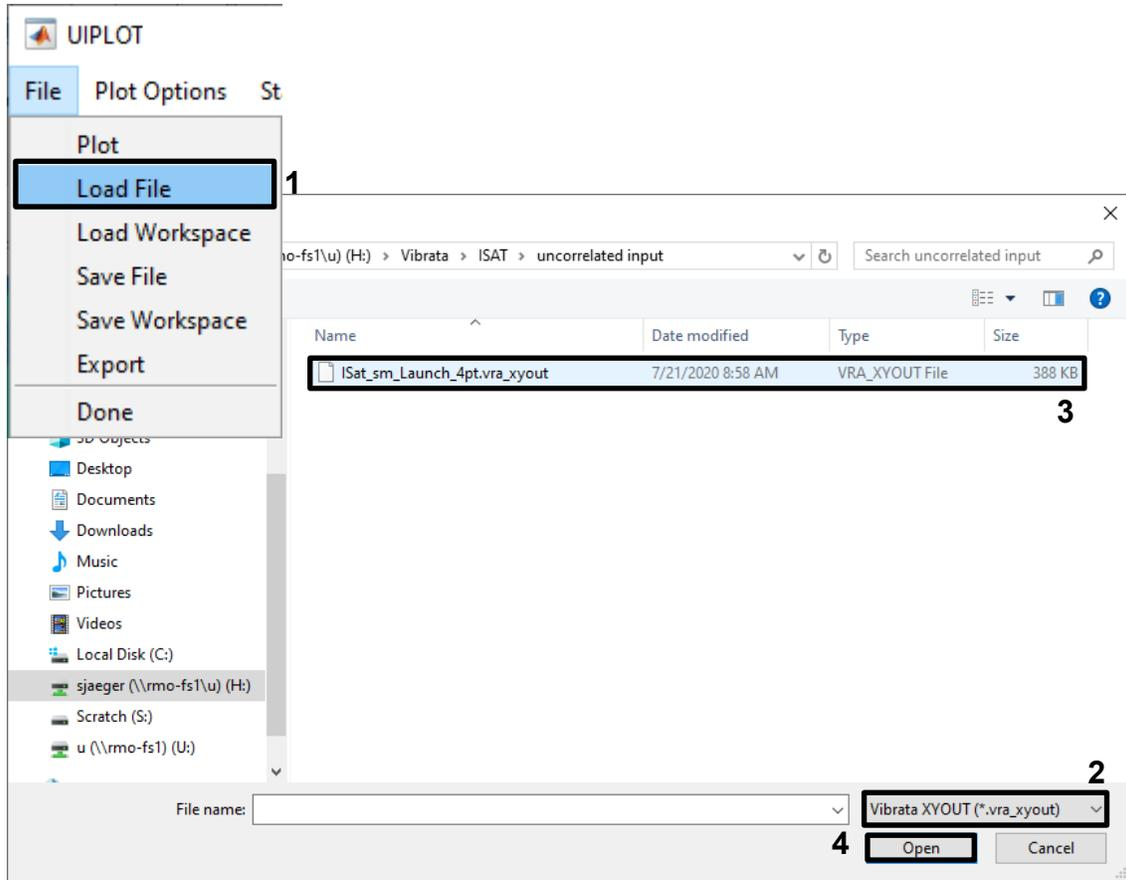
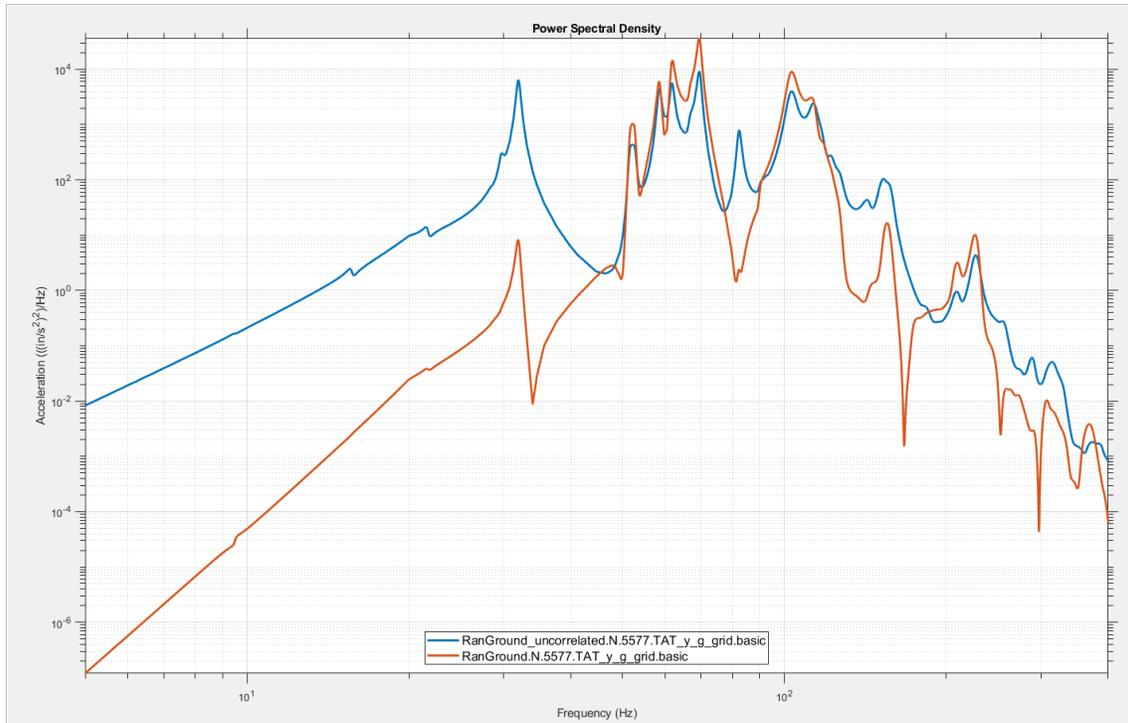

Figure 4-56. Add the rigid-base results to those available for plotting.
Figure 4-57. The Y-acceleration responses for the two events are very different.
8. Compare the Y-acceleration response PSD from this case to the one from the rigid-base event. On the *Output* tab, click the **PLOT XY...** button to bring up the *UIPLOT* dialog. It will show the functions for the current event, which is the four-point model with uncorrelated inputs. Use the *File / Load File* menu to make the results of the rigid-base event available (Figure 4-56). Plot the *TATy* function from both events (Figure 4-57). Again, they are clearly quite different.